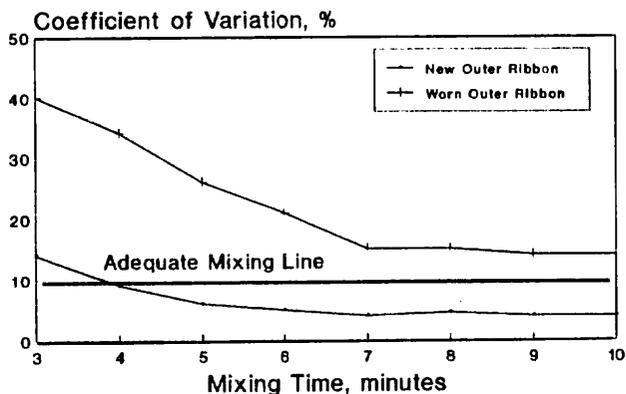
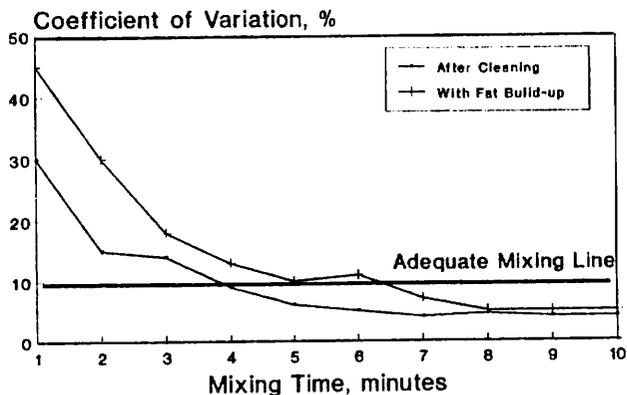

Figure 3. Effect of a wear on mixing efficiency of a single-screw mixer.
Figure 4. Effect of ribbon build-up on mixing efficiency.
**Worn Equipment.** Worn paddles, ribbons, and screws also contribute to increased mixing times (Figure 3). In addition, ribbon or paddle build-up from adding fats or oils and milk products also can interfere with mixing action (Figure 4). Wear on screws and their housing in vertical mixers will reduce mixing action. Because most of the wear will occur at the bottom of the mixer, this will limit the amount of feed that can be lifted. A rule of thumb is that if the diameter of the screw is reduced by 1/2 in., then you should increase mixing time by 5 min.